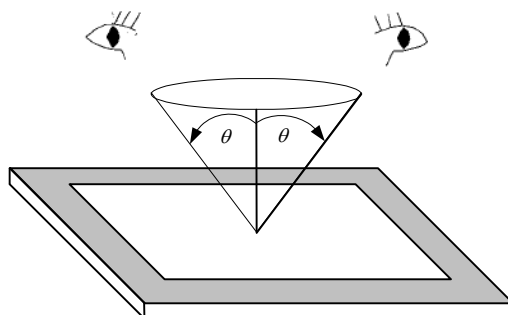

Fig. 11.1
- (2) Inspection distance(viewing distance to LCD module) : Approximately 30 cm
- (3) Viewing angle : $\leq 30^\circ$
- (4) Refer to the Measurement Conditions described in Item 6.1 for all other conditions.
- The viewing zone is defined with angle θ shown in Fig. 11.1 The inspection should be performed within 30° when display is shut down. The inspection should be performed within 5° when display is power on.